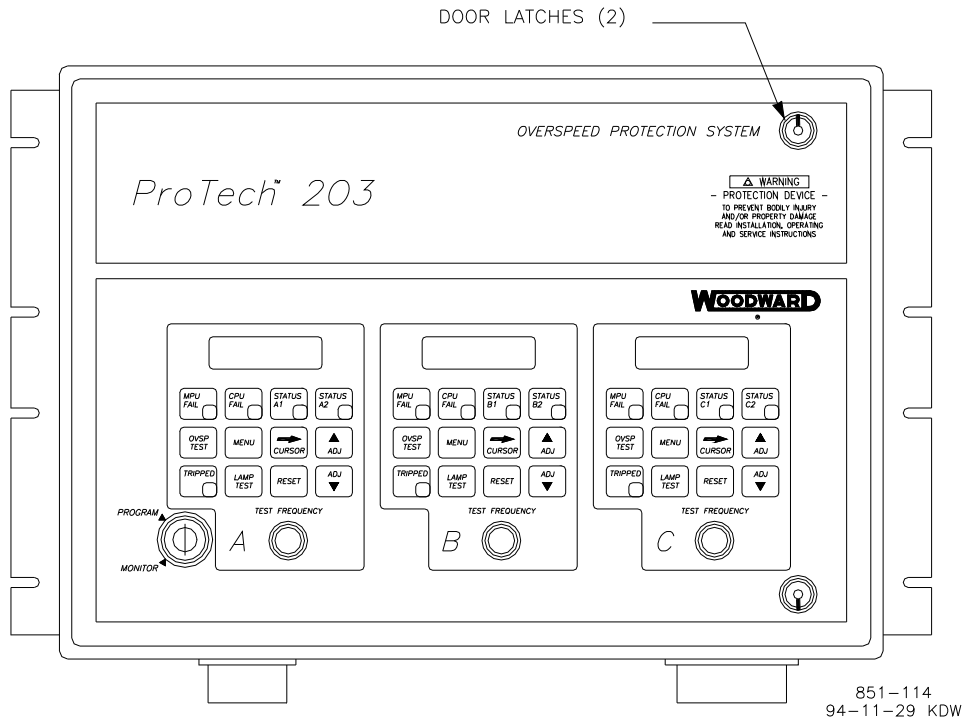

Figure 5-1. ProTech System Front Door
- To open the front door, unscrew the two door latches (see Figure 5-1).
2. To open the front door, unscrew the two door latches (Figure 5-1).
10. Attach both ribbon cables to the I/O board (Figure 5-1).